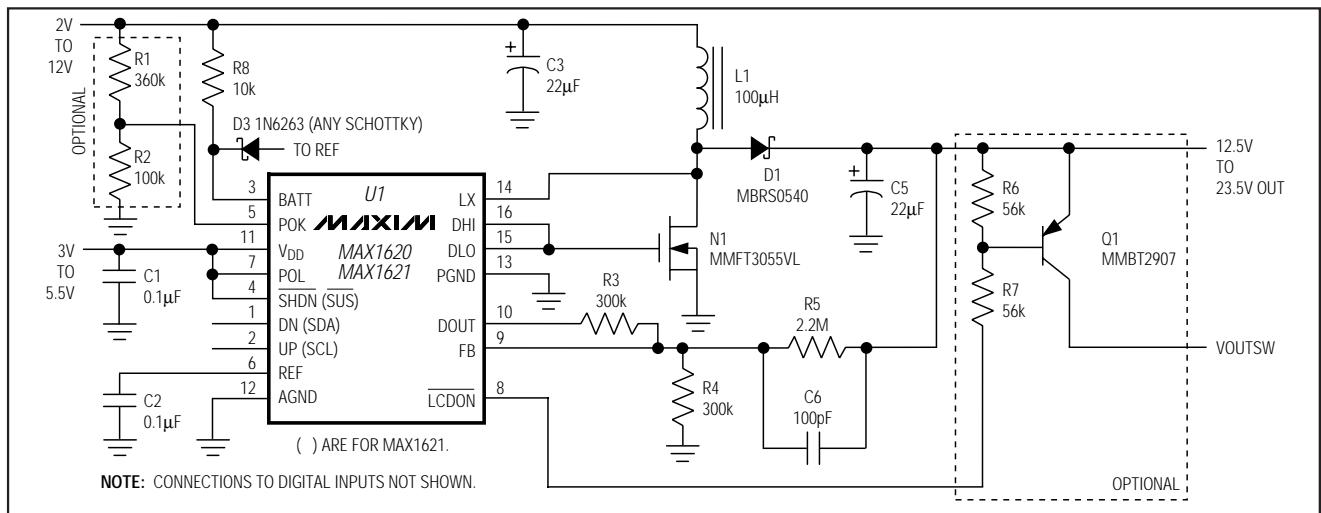

Figure 4. Typical Operating Circuit—Positive Output
To select a positive output voltage, tie the polarity pin (POL) to V_{DD} and use the typical boost topology shown in Figure 4. FB regulation voltage is 1.5V. For optimum stability, V_{OUT} should be greater than 1.1 (V_{BATT}).
To prevent uncontrolled boosting when the output is disconnected, the feedback resistors must sense the boosted voltage rather than the output of the \overline{LCDON} switch (Figure 4).
Separate voltage sources can supply the inductor (L1) and the IC (V_{DD}). This allows operation from low-voltage batteries as well as high-voltage sources because chip bias ($150\mu\text{A}$) is provided by a logic supply (3V to 5.5V) while output power is sourced directly from the battery to L1. Conversely, L1 and V_{DD} can also be supplied from one supply if it remains with V_{DD} 's operating limits (3V to 5.5V). If L1 and V_{DD} are fed from the same voltage, D3 and R8 (Figures 4, 5, 6, and 10) can be omitted, and BATT may be connected directly to V_{DD} .
The minimum output voltage is set with a resistor-divider (R4-R5, Figure 4) from V_{OUT} to AGND. The FB threshold voltage is 1.5V. Choose R4 to be 300k Ω so that the current in the divider is about 5 μA . Determine R5 as follows:
The DAC is adjustable from 0V to 1.5V in 32 steps, and 1LSB = 1.5V / 31. DAC adjustment of V_{OUT} is provided by adding R3 to the divider circuit (Figure 4). Be sure that $V_{OUT,MAX}$ does not exceed the LCD panel rating.
- 3) As an input sensing output cutoff for positive outputs. Connect POK to a voltage divider to sense the input voltage. The output is switched on only when the input reaches the set level (Figure 4).
To control the open-drain output \overline{LCDON} by sensing the input voltage, connect a resistor-divider (R1-R2, Figure 4) from V_{BATT} to POK. Choose R2 = 100k. For example, if the minimum battery voltage is 5.3V, determine R1 as follows: